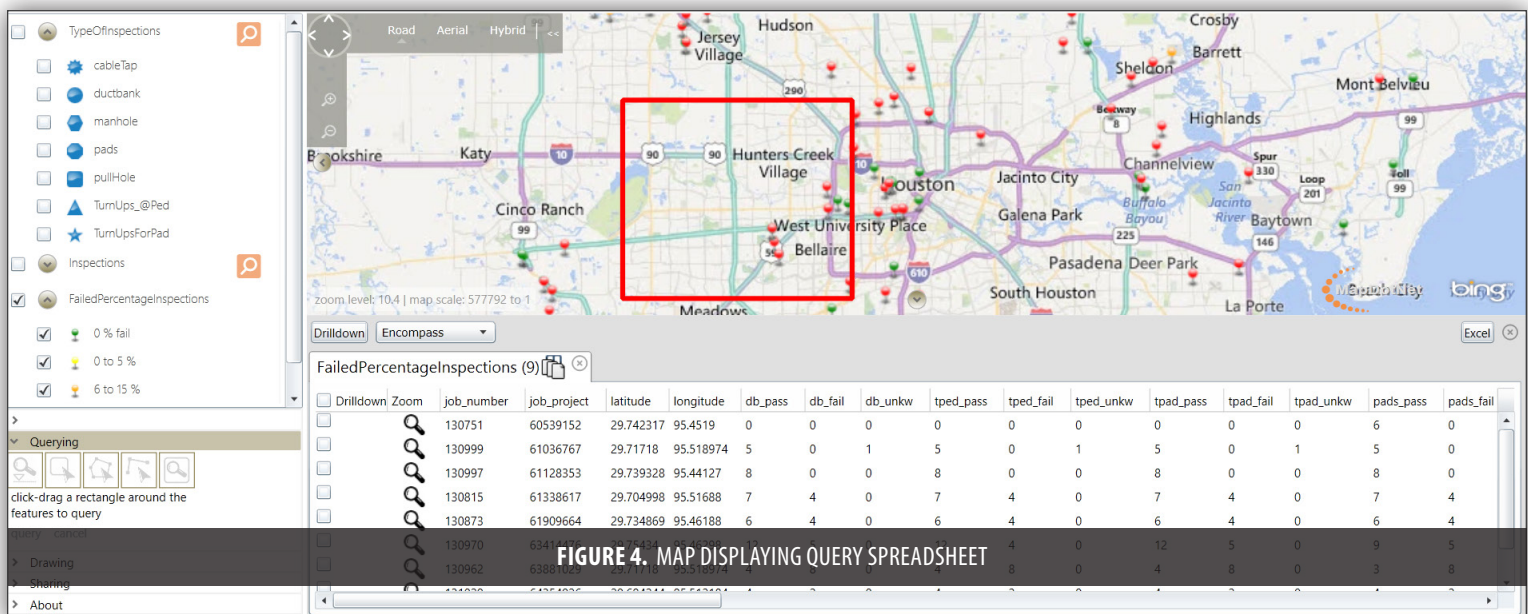
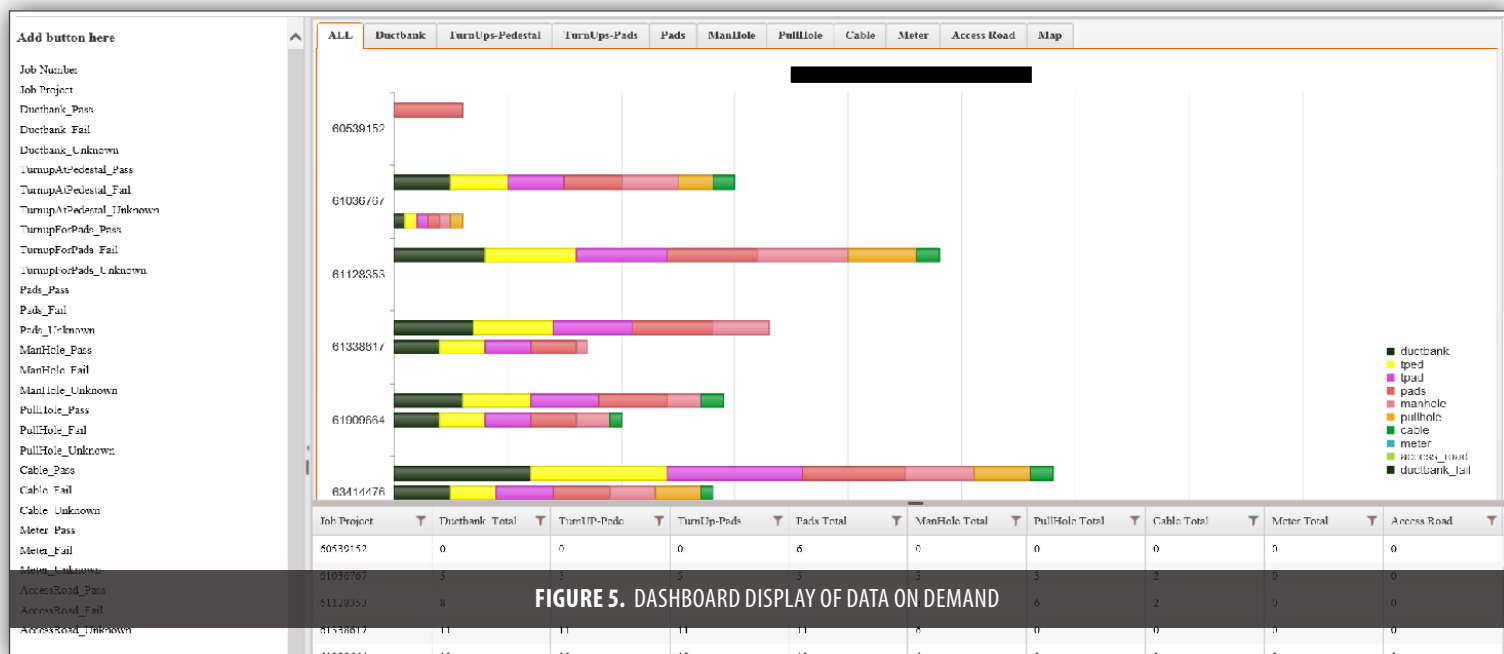

FIGURE 4. MAP DISPLAYING QUERY SPREADSHEET
FIGURE 5. DASHBOARD DISPLAY OF DATA ON DEMAND
*Figure 4* illustrates an easily used map to query updated network location information. One can see a spreadsheet in the lower portion of *Figure 4*. The user can easily export the map query as a spreadsheet for risk evaluation. The map allows access to dashboards that drill deep within the data. *Figure 5* illustrates one such dashboard.